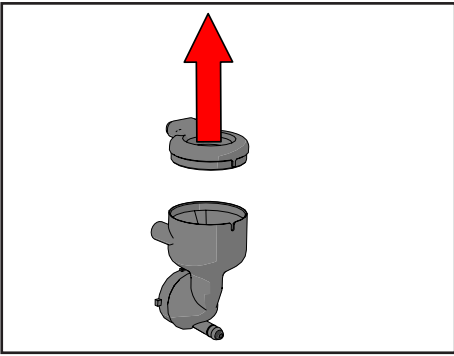

Figure 53. Detach suction ring
8. Separate the suction ring from the mixing bowl (see Figure 53).